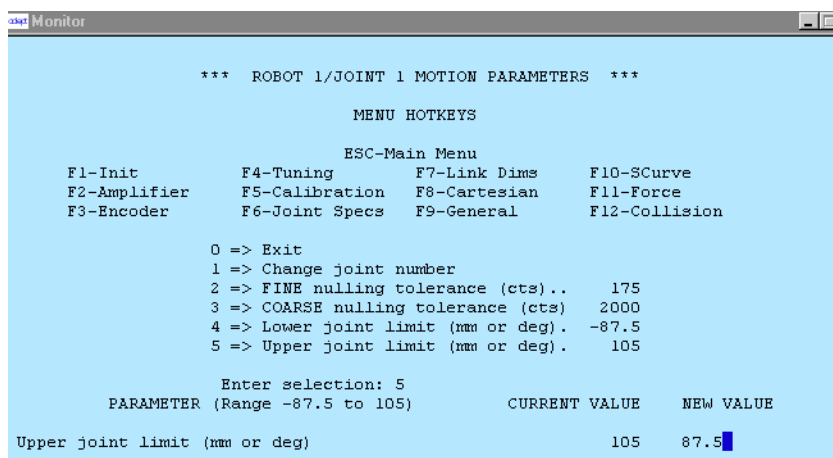

Figure 6-19. Joint 1 Menu - Upper Limits
- In the next menu, select option 5=> upper joint limit. See Figure 6-19.